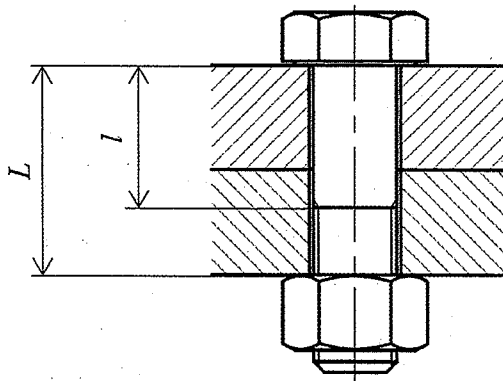

Figure 3-1
I. Consider fastening two plates using a bolt and a nut as shown in Figure 3-1. When the bolt is fastened, axial force occurs, the plates are compressed and the bolt is stretched. For the part of the bolt where axial force occurs, let its length and spring constant be L and C_b , respectively. Let the length of cylindrical part be l , the sectional area of cylindrical part be S , and the effective sectional area of the thread be s . When an axial force is F and the amount of compression of the two plates is δ_p , the spring constant of the two plates is expressed as $C_p = F/\delta_p$. δ_p is very small. Answer the following questions.
- (1) The spring constant k of a cylindrical rod along the length direction with h in length, A in sectional area and E in Young's modulus is represented by $k = AE/h$. Express the spring constant of the bolt C_b in terms of L , l , S , s , and Young's modulus of the material of the bolt, E .
- (2) Find the ratio between the amount of expansion of the bolt and the amount of compression of the two plates in terms of C_p and C_b .